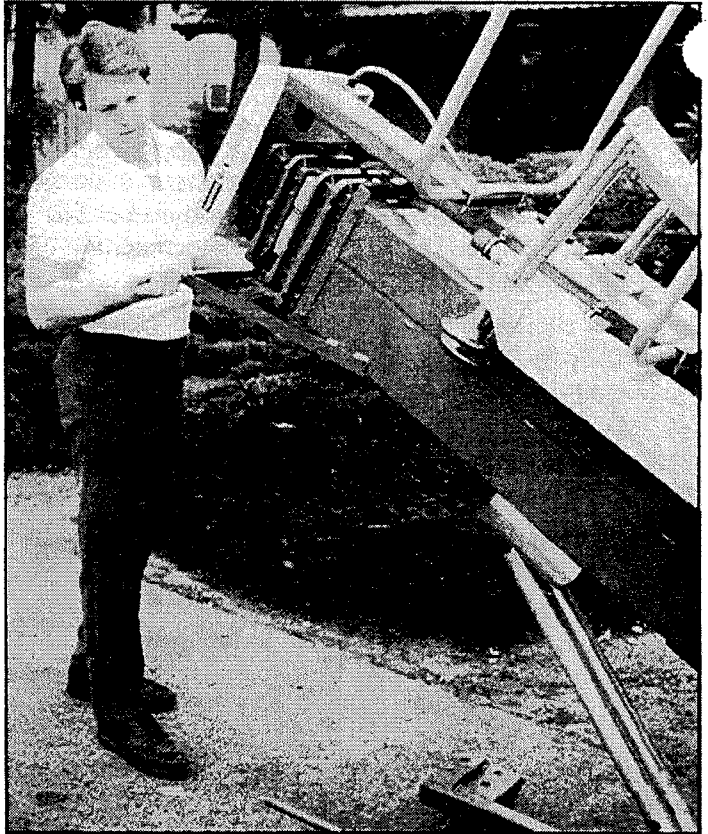

Figure 3-17: Extending Cylinder Assembly
1. For all machines **except** UL-24/30, lift up on mast handle to extend cylinder assembly, Figure 3-17.